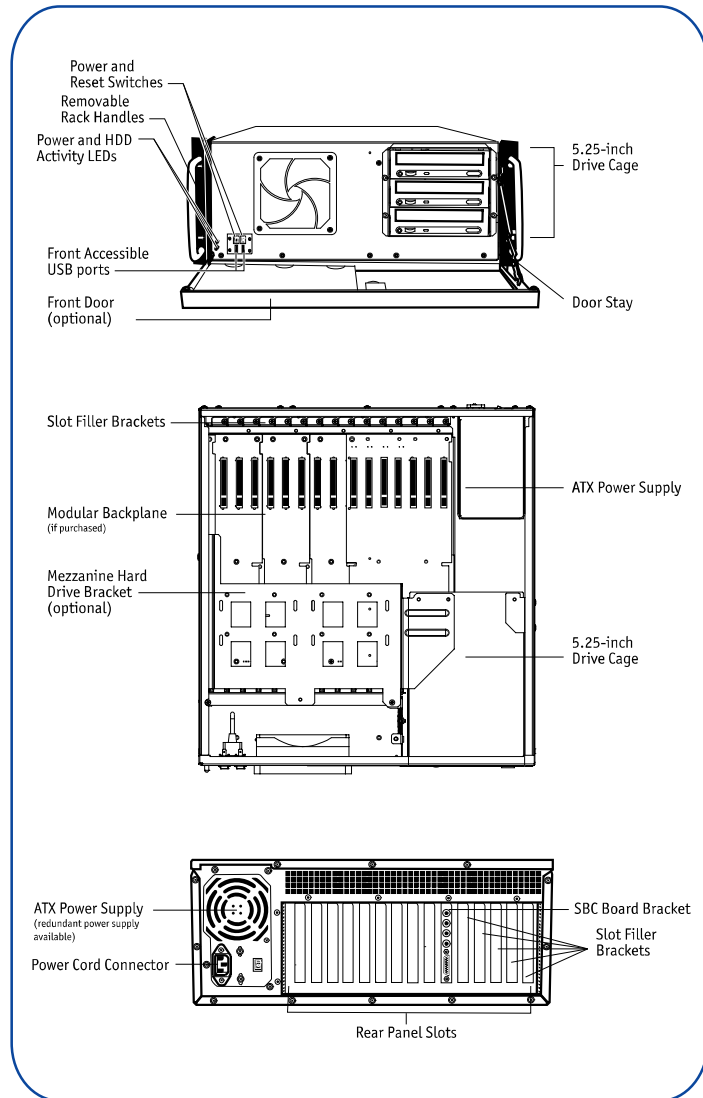

Figure 1. Rack Handle/Roller Bracket Installation
- 1) Secure each rack handle to the rack ears with two flat head screws (Figure 1).
- 2) Secure the rack ears to the door mounting plates on both sides of the chassis with two round head screws (Figure 1).
- 1) Remove the roller brackets from the included rack slides by extending them from the middle slide until you hear a 'click'. Using your thumb, press down on the tab facing the middle slide and remove the roller bracket. Mount to each side of the chassis (Figures 1 and 2).